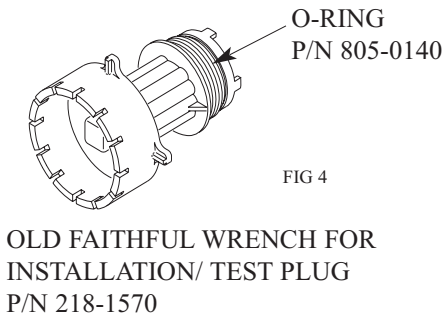

FIG. 4
- Using Waterways installation wrench/ test lug P/N 218-1570 (see fig. 4), screw the wallfitting onto the body unit until it is snug.
- When putting on Wallfitting Cover (P/N 215-7320) do not over tighten screws, or tightening may cause gasket to pinch out. (See fig 4).